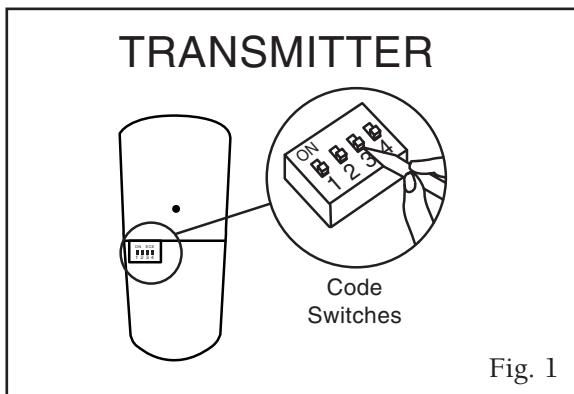

Fig. 1
1. Setting the code on the TRANSMITTER [Fig. 1]: